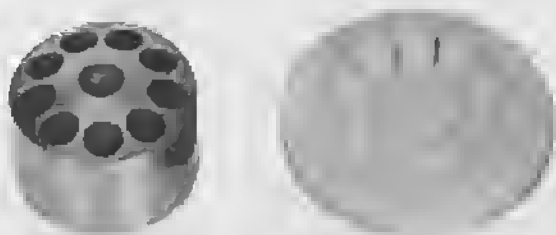

Figure 8 - Driven Cylinder Block and Assembly Fixture, Tool No. N310776
2. Place the driven cylinder block (without spline) on the assembly fixture, Tool No. N310776, and insert the plunger spring and the plunger. See Figure 8.